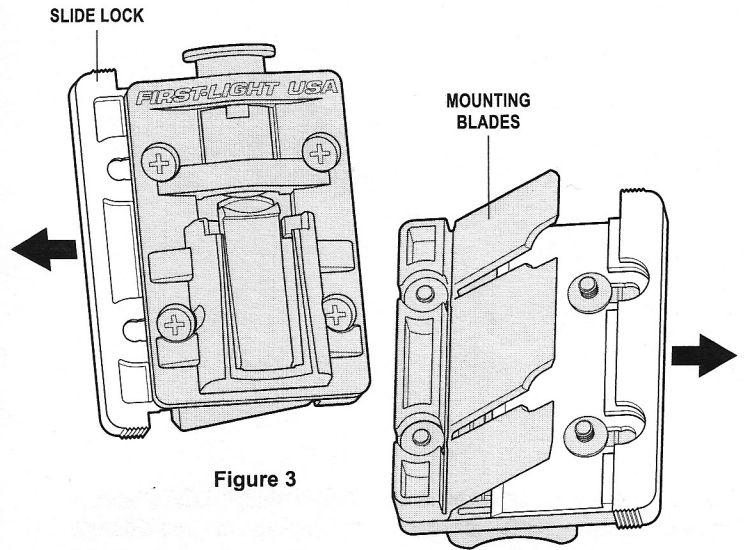

Figure 3
- Pull the slide lock outward to release the three mounting blades (Figure 3).